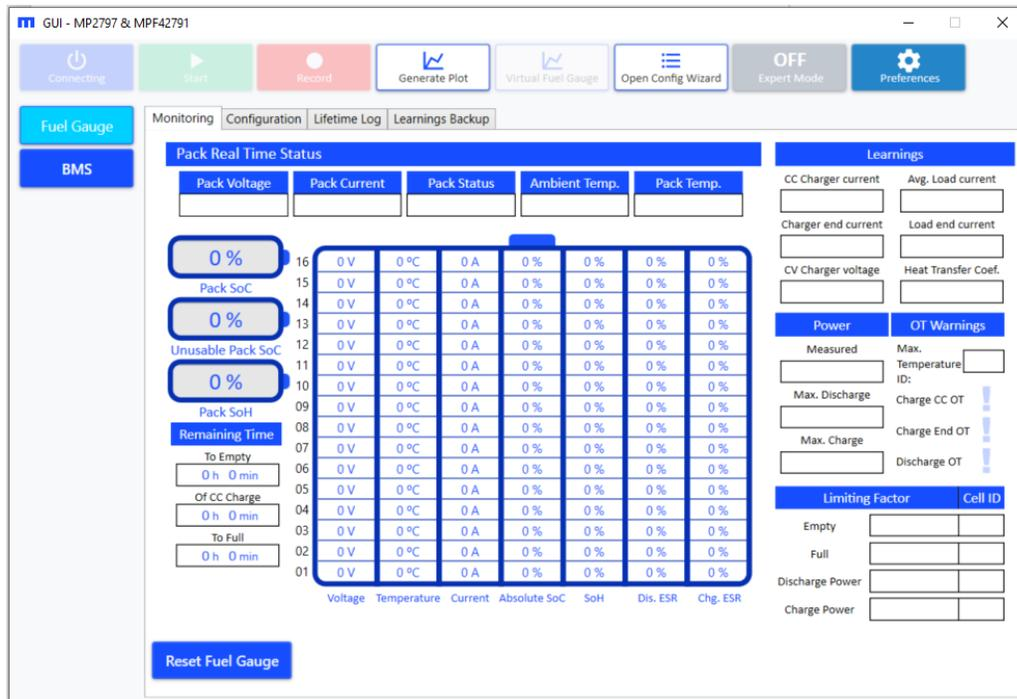

Figure 30: GUI Connecting to the EVB
- When connecting to the board, the GUI reads all evaluation board configuration parameters (for the FG and BMS). During this process, the “Connect” button should change to “Connecting” (see Figure 30). This process may take a few seconds.